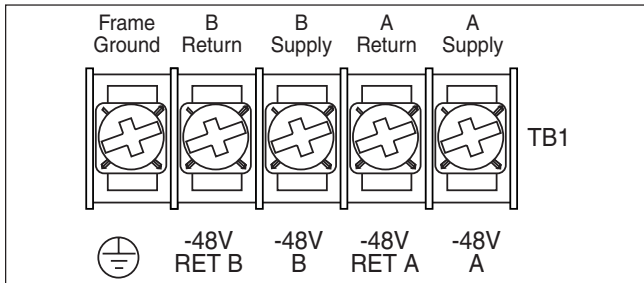

Figure 4. Local DC Power Connection
Fully populated, the NIU3 3-Slot Shelf operates on local -48 VDC @ 0.375 amps maximum. The shelf backplane has spade lug terminal connections (TB1) for both an “A-side” and “B-side” independent DC source, plus Frame Ground (see **Figure 4**). A diode arrangement adds reliability by allowing both DC supplies to load-share with one side picking up the entire load should the other side fail. See requirements in *Compliance* subsection.
- Connect the -48 VDC supply and return wires to the A-side terminals per Figure 4.
- If redundant power is intended, connect an independent power source to the B-side terminals per Figure 4.